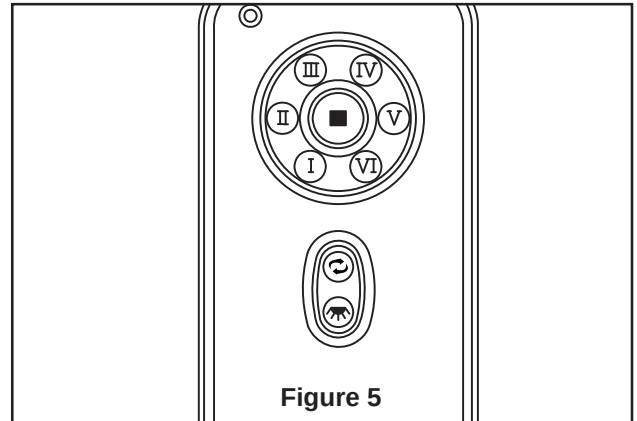

Figure 5
- : Controls light-Infinite light levels are available by holding the light on/off button (Figure 5).